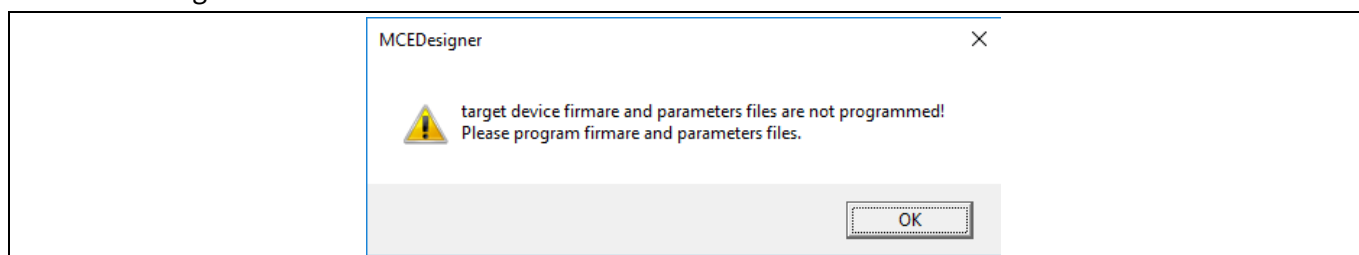

Figure 5 MCEDesigner warning message
4. (In the case of a blank IC) If the firmware has been erased from the IMC101T, the following warning message will pop up “Target device firmware and parameters file are not programmed! Please program firmware and parameters file.” as Figure 5. Then you can program as described in the step 5. If it is not the blank IC, no such message will be indicated.